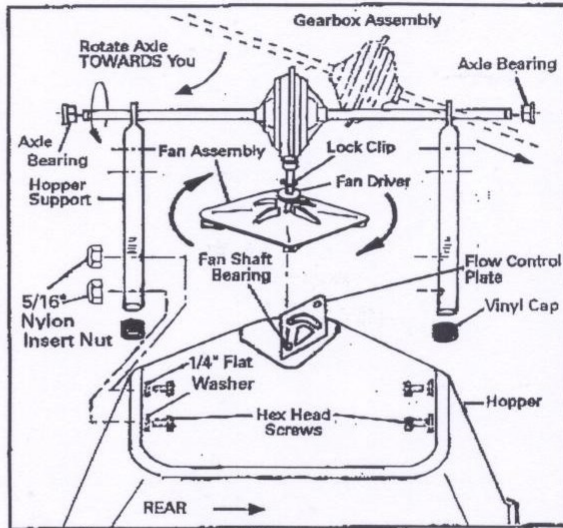

FIG. 4.
**Refer to FIG. 4.**
NOTE: The shutter protrudes out the FRONT of the hopper. Do not tighten any bolts until all steps in Fig.4 are complete.
NOTE: Again check the direction of rotation. While viewing the inside of hopper from above, the agitator MUST rotate COUNTER-CLOCKWISE, when pulling the unit forward. If the agitator rotates clockwise, repeat the steps described in FIGURE 4.